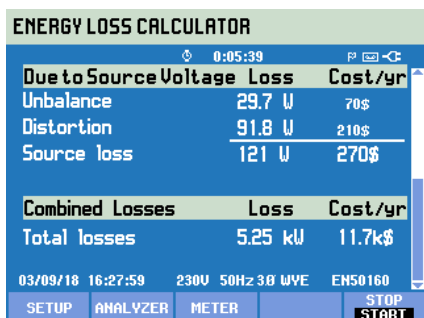

Figure 3.
- Due to Source Voltage (Figure 3)